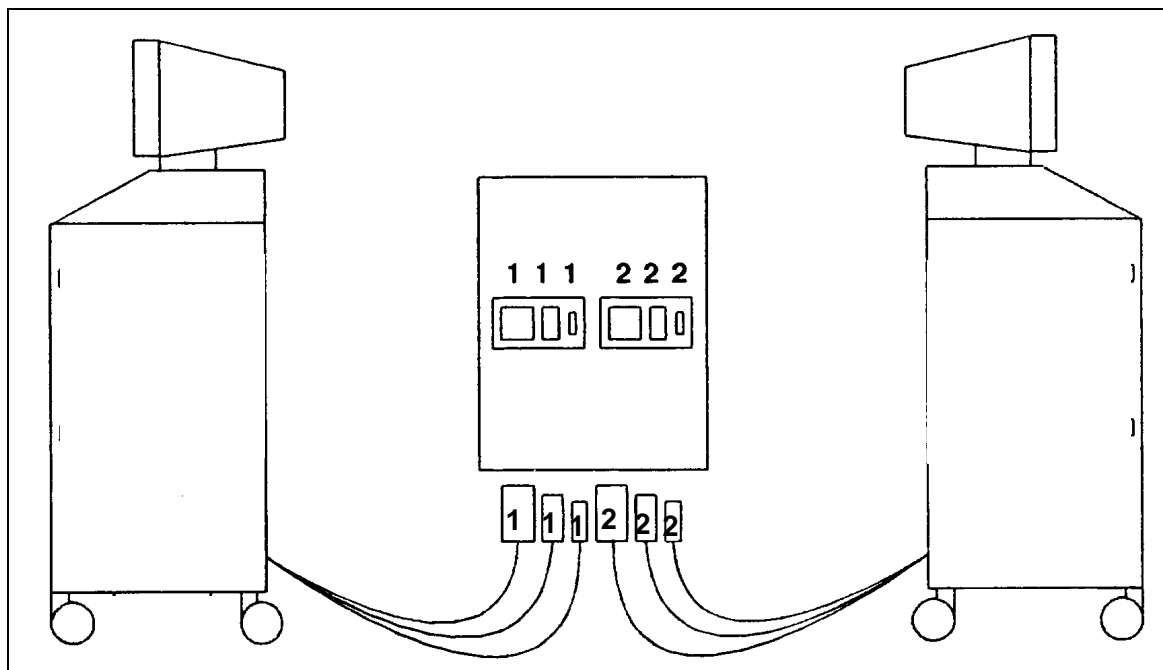

Fig. 1
- Attach one label over each of the three plug connections to the power cabinet, with the designation "1" (Fig. 1).
- Attach one label to each of the three cables to the monitor cart for unit 1, with the designation "1" (Fig. 1).
- Attach a label with the designation "2" over the right three plug connections for the power cabinet (Fig. 1).
- Attach one label to each of the three cables to the monitor cart for unit 2, with the designation "2" (Fig. 1).